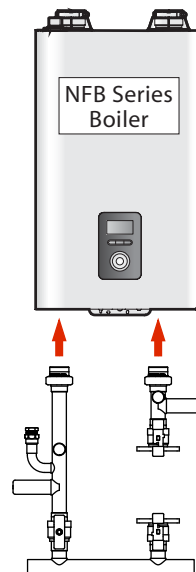

FIGURE 1: Supply and Return Connections on the NFB Series Boiler
- Apply thread sealant to the 1-1/4" Heating RETURN and SUPPLY fittings located at the bottom of the boiler unit (see **FIGURE 1**).